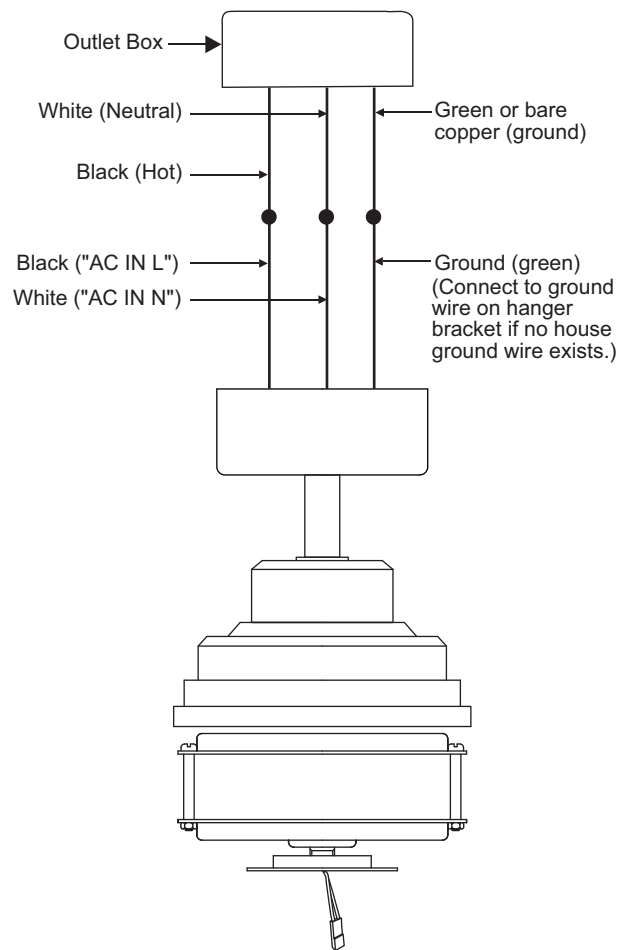

Figure 9
Step 1. Motor to House Supply Wires Electrical Connections: Connect the WHITE wire (Neutral) from the outlet box to the WHITE wire marked "AC in N" from the motor. (Fig. 9)
Step 2. Connect the BLACK wire (Hot) from the outlet box to the BLACK wire marked "AC in L" from the motor. (Fig. 9)
Step 3. (Figure 9) If your outlet box has a ground wire (green or bare copper) connect it to the fan ground wires; otherwise connect the hanging bracket ground wire to the mounting bracket. Secure the wire connection with a plastic nut provided. After connecting the wires, spread them apart so that the green and white wires are on one side of the outlet box and black and blue wires are on the other side. Carefully tuck the wire connections up into the outlet box.